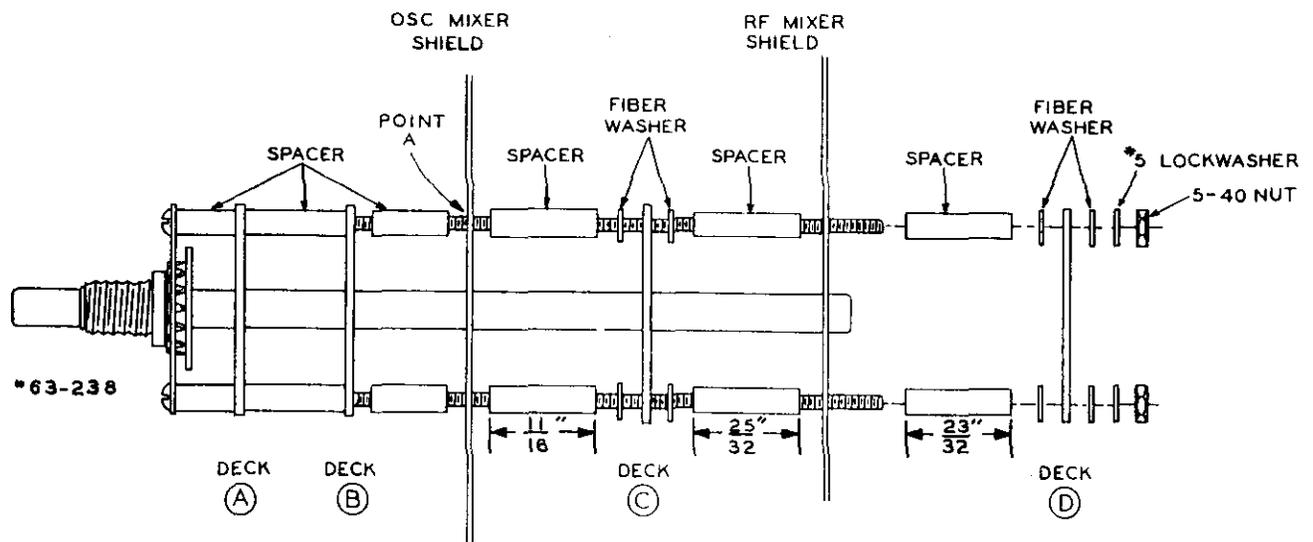
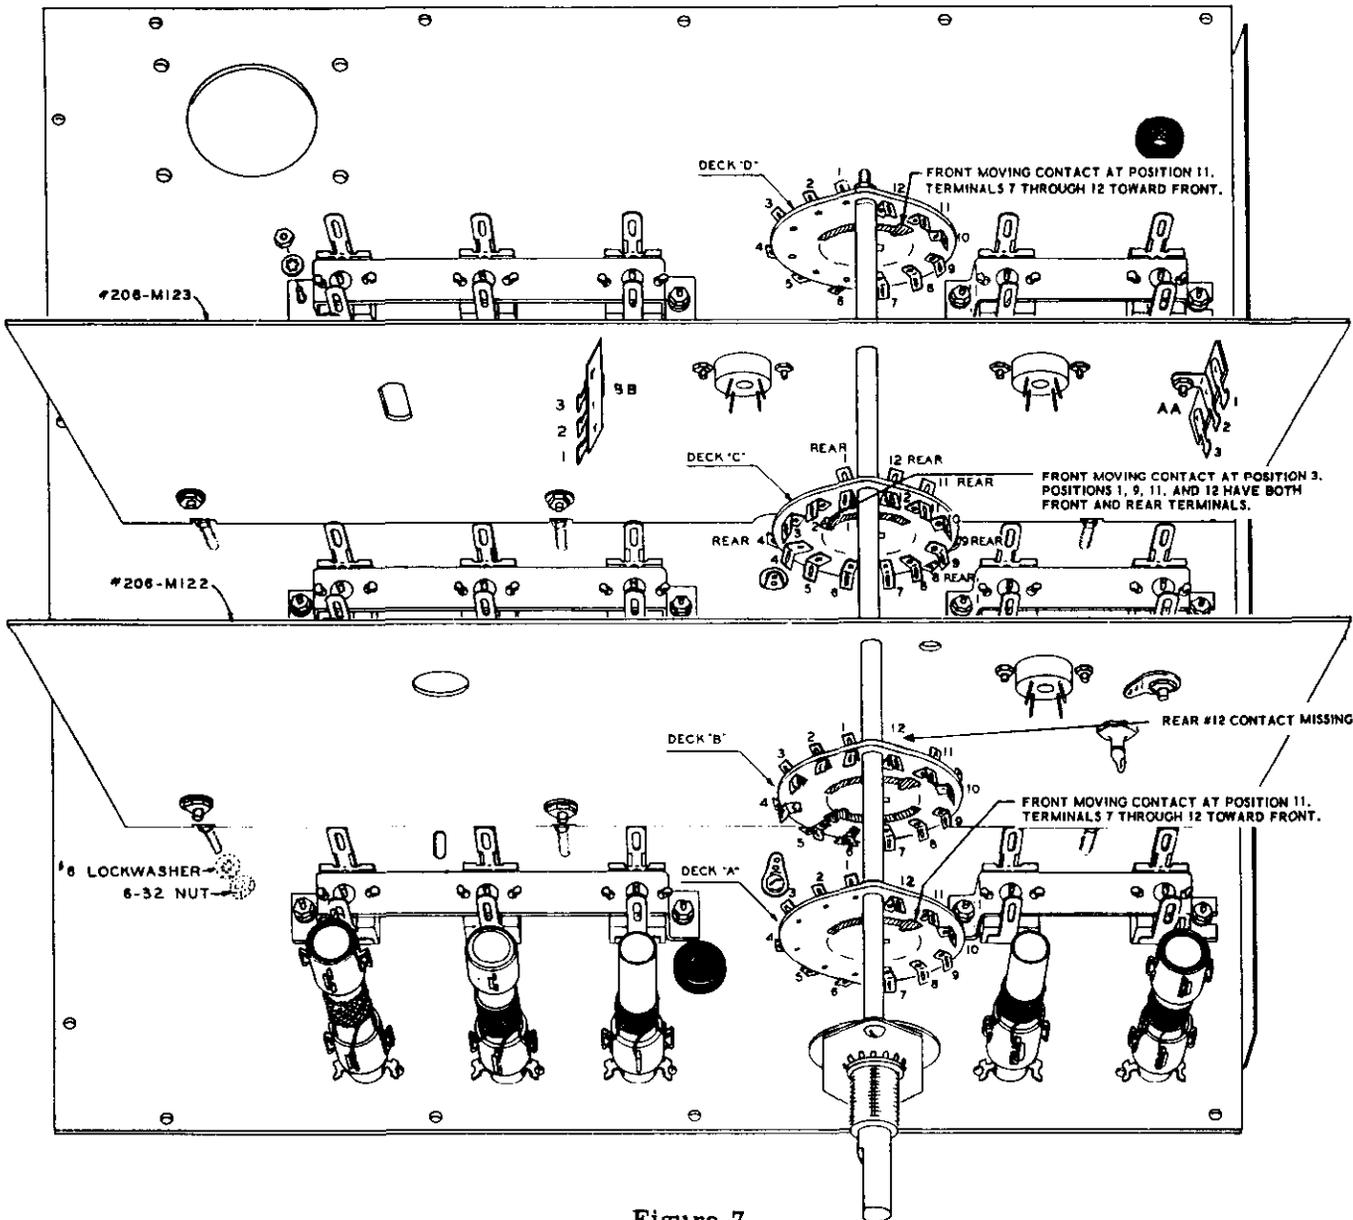

Figure 6
Figure 7
Refer to Figure 6 for assembly of the shields to the band switch (#63-238) and Figure 7 for proper orientation of the switch wafers. The switch as supplied should be in its extreme counterclockwise position, as viewed from the knob end. It must be assembled to the shield plates while in this position, if the indicated positions of moving contacts shown in Figure 7 are to apply.
1. Do not disassemble the switch beyond point A (see Figure 6).
2. Make absolutely certain all switch wafers are oriented as shown in Figure 7. **CHECK THE POSITIONS OF THE TERMINALS AND FRONT MOVING CONTACT ON EACH SECTION.**
- ( ) Place the oscillator-mixer shield (#206-M122) on the band switch (note position of contacts with respect to the switch rotor and shield plate). Orient as shown in Figure 7.
Refer to Figure 7 for the following steps: